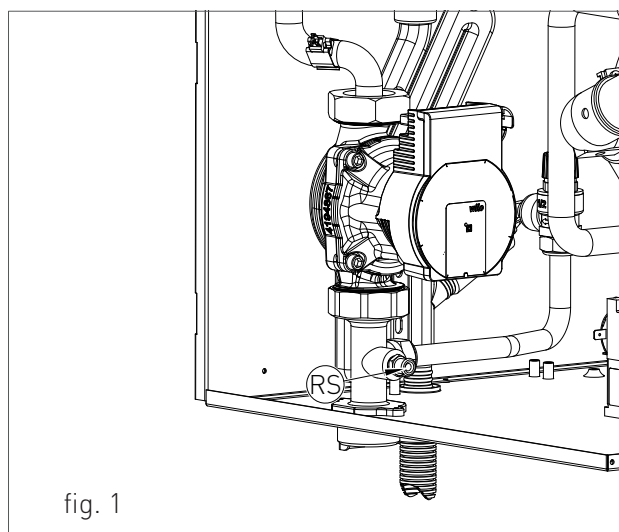

fig. 1
- > open the Locks (1-Fig. 1) with a triangle wrench;
- › Grab at the same time the support brackets of the control panel (fig. 1) loosening them and turn the panel downwards;
- › unscrew the four fastening screws 1 - fig. 1;
- › turn the discharge tap of the system 'RS' (fig. 1);